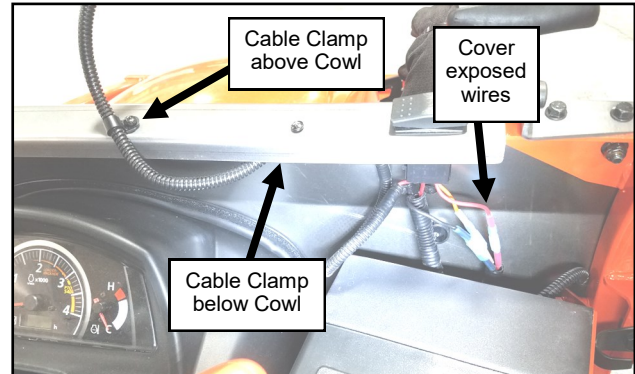

Fig. 19.3 (Secure Wires to Cowl)
- 19.3** Open the windshield and secure the wiring harness to the cowl using cable clamps. Verify the wiper harness routing allows the windshield to be opened and closed without the harness getting pinched under the windshield. See Figure 19.3.